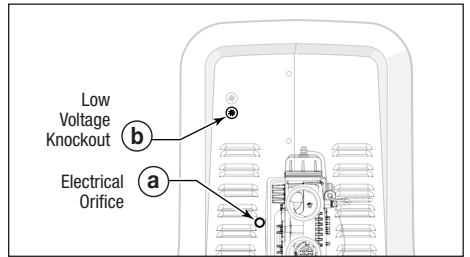

Figure 12. JXiQ Electrical Orifice and Voltage Knockout
2. Feed the electrical harness through the electrical orifice on the side panel. See Figure 12 (a). If using the low voltage knockout you may need to remove the cap and replace with the included knockout bushing.
**NOTE:** If your heater serial number is revision "G" (GXXXXX) or earlier you will need to use the low voltage knockout to wire the heater. See Figure 12 (b).